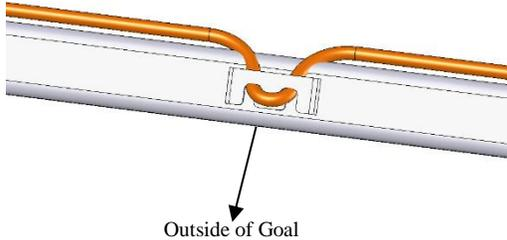

Figure 6
6. With the goal now fully assembled, place the net flat on the ground and locate the corners of the net. Locate the centerline of the bound edge that will be attached to the crossbar. The centerline of the binding will be attached to the centerline clip of the crossbar. Lay the soccer goal down on its face, attach the net by first pushing the outer binding through the clip, then securing in the groove (Fig. 6). Start in the middle of the goal and attach every other clip, and then go back through and attach the remaining clips. Once clipped, apply weight to the clipped net to stretch material. Next, work down both uprights and then back around the End Frame. Follow the same procedure used for the crossbar. Finish by attaching the net to the Ground Bar.